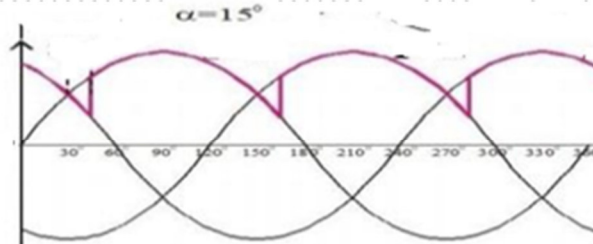

Figure 8.6: Waveform at Terminal x of Half Controlled Bridge Rectifier
- Now adjust all the potentiometers, by observing the waveform at terminal x (between common cathode terminal and neutral), to a position that all firing angles (α) be the same and waveform at terminal x is above 0 level ($\alpha < 30^\circ$) as shown in the Figure 8.6